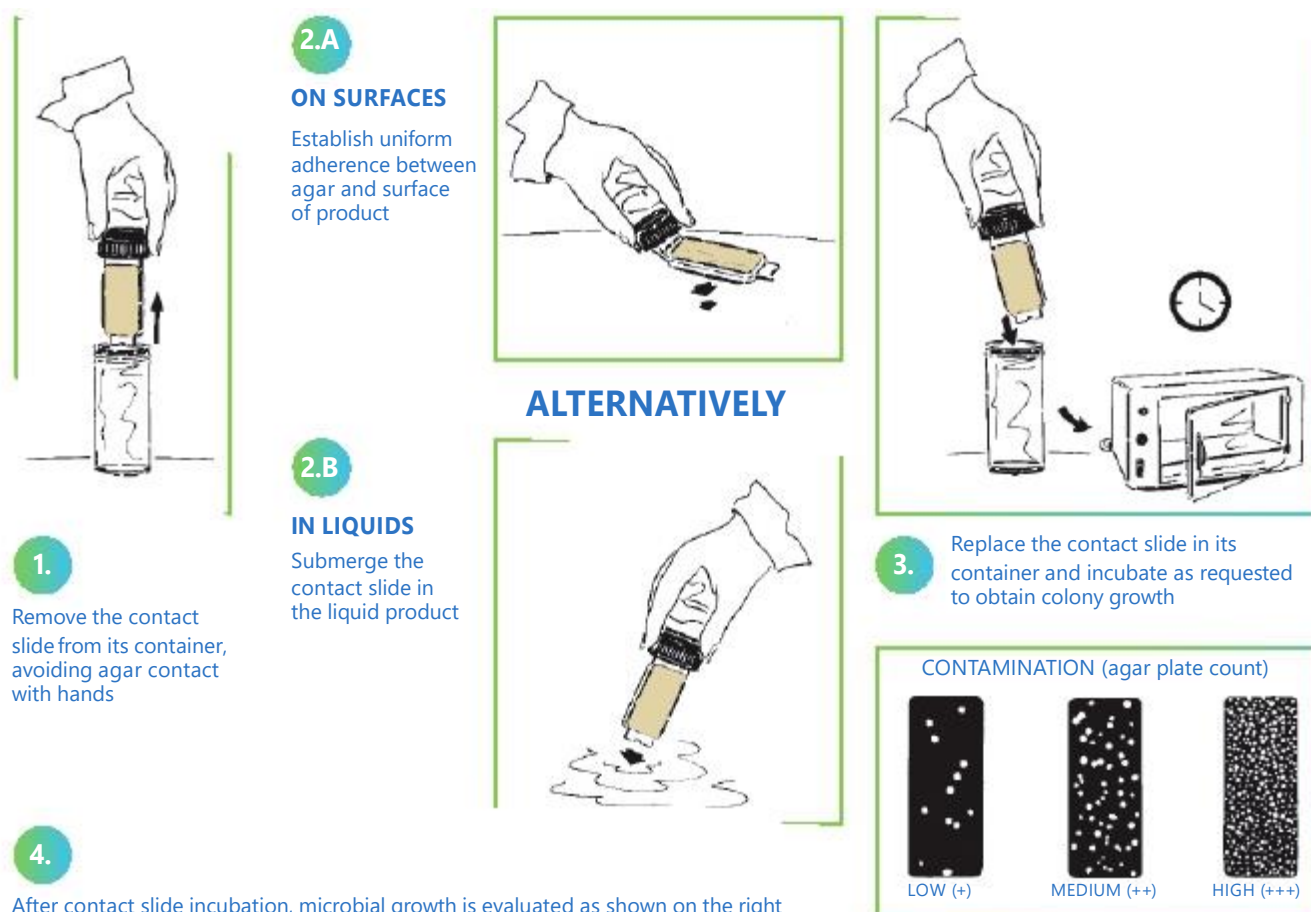

FIGURE 1: Instructions for contact slide use.
03. Reinsert the slide into its tube, screw it tight and incubate following conditions specified in an appropriate International Standard (Figure 1).